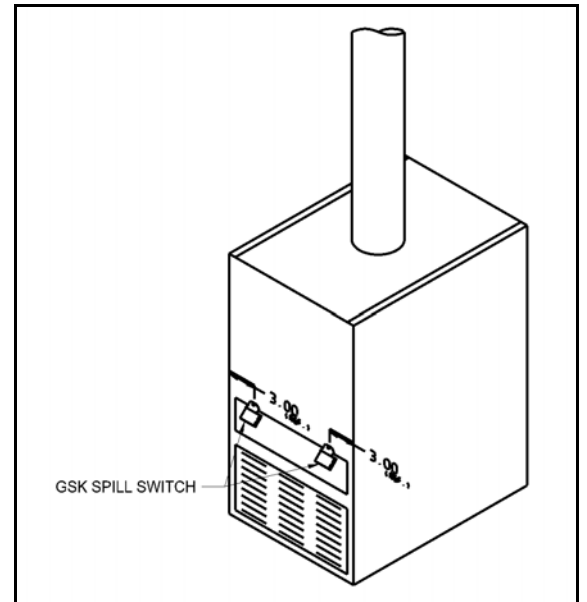

Figure 3
BUILT-IN DRAFT HOOD (See Figures 3 & 4)
1. Two (2) switches are recommended on appliances without a factory supplied spill switch. Mount the switches approximately 3 inches from the side of the draft hood opening and the second switch (if used) 3 inches from the opposite side of the draft hood. (See Figure 3) If the appliance has a factory built-in switch, mount a single switch 3 inches from the side opposite the factory switch.